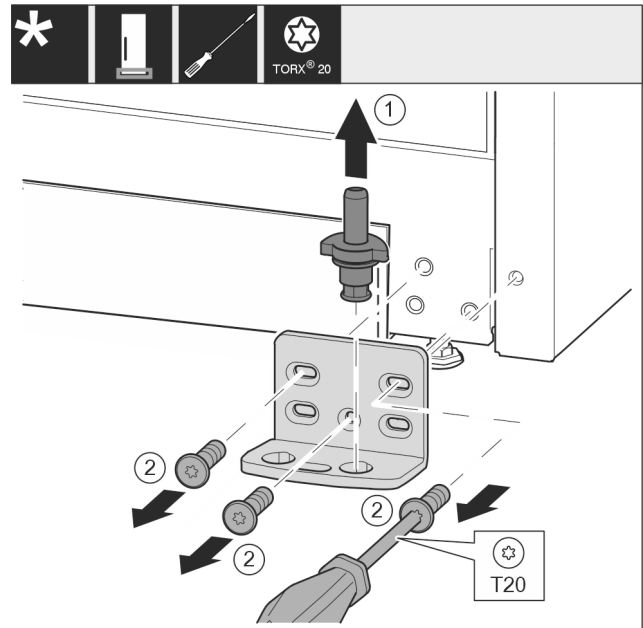

Fig. 17
- ▶ Pull the bearing bolt Fig. 17 (1) out upwards completely.
- ▶ Use screwdriver to unscrew the screws Fig. 17 (2) and remove the swap bearing block.